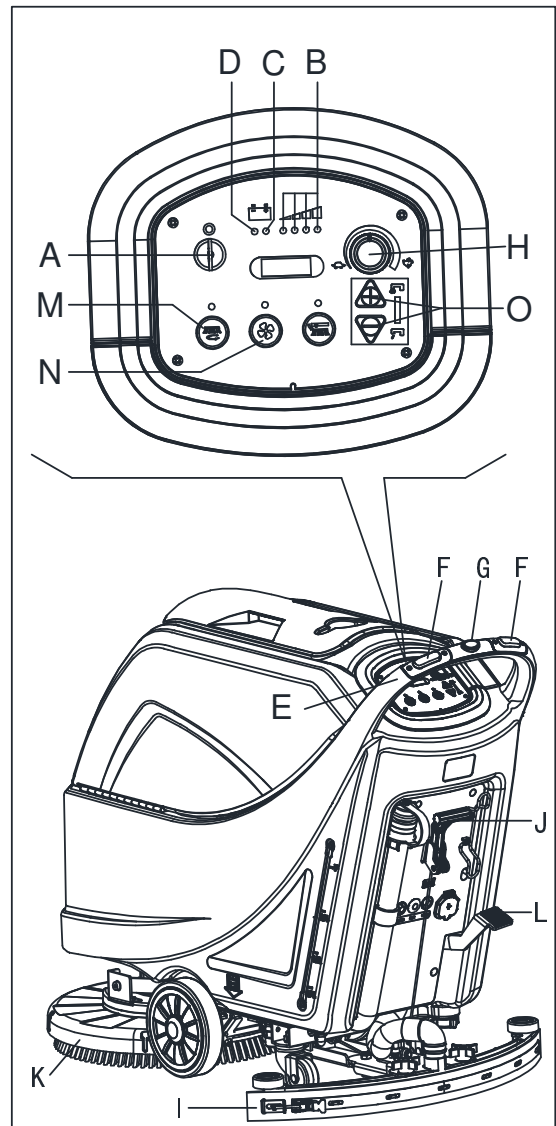

Figure 8
2. Insert the ignition key (A, Figure8) and turn it to "I". Check that the green warning light (B) turns on (charged battery). If the yellow (C) or red warning light (D) turns on, turn the ignition key back to "0" and charge the batteries (see the procedure in Maintenance chapter).
- By pushing it with the hands on the handlebar (E) (only for machine without traction).
- By pushing it with the hands on the handlebar (E) and pressing the switch (F) to move forward, or pressing the switch (F) together with the switch (G) to move backward (only for machine with traction). The forward speed can be adjusted with the adjuster (H).
4. Lower the squeegee (I) with the lever (J).
5. Lower the brush/pad-holder deck (K) by lifting the pedal (L).
6. Press the brush/pad-holder switch (M) and the vacuum system switch (N).
7. Press the washing water flow control switches (O) as necessary, depending on the type of cleaning to be performed.
- (only for machine without traction) by pushing the machine with the hands on the handlebar (E) and pressing the switch (F).
- (only for machine with traction) by pushing the machine with the hands on the handlebar (E) and by pressing the switch (F). If necessary, the forward speed can be adjusted with the adjuster (H).
2. While keeping both hands on the handlebar press the safety switch (F, Figure8), then manoeuvre the machine and start scrubbing/drying the floor.